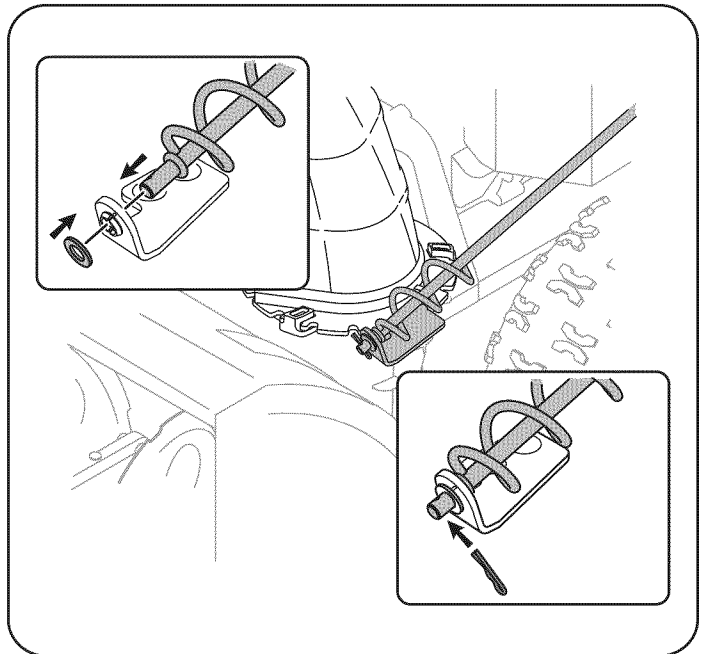

Figure 6
8. Insert the end of the chute directional control into the lower bracket and secure with the flat washer and hairpin clip removed in Step 7. See Figure 6. If necessary, the lower bracket can be adjusted. Refer to Chute Bracket Adjustment on page 19 in the Service & Maintenance section.